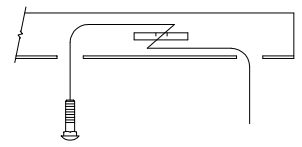

Figure 1
- Install hitch** - Feed the carriage bolts ① and spacers ② to attachment holes through access holes using the pull wires ⑤, see Figures 1 & 2. Leave pull wires attached. Reinstall the trimmed heat shield with (1) nut at trunk pan stud location. Raise the hitch into position and feed the pull wires through bracket holes. Remove pull wires and loosely install conical washers ③ and hex nuts ④ to the hitch.
- Reinstall the underbody panel and exhaust. Note: (2) nuts and (1) rivet from underbody panel and (2) nuts from heat shield will not be reinstalled after trimming.